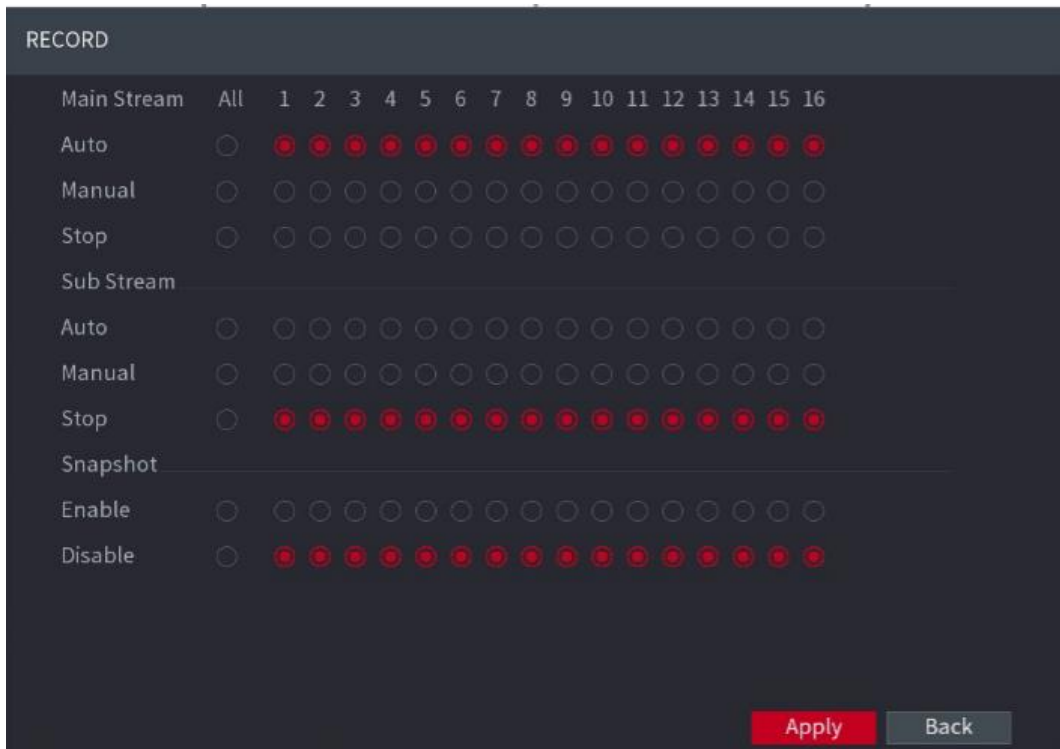

Figure 5-93
Step 1 Right-click on the live view screen, the shortcut menu is displayed. On the shortcut menu, select **Manual** → **Record Control**. The **RECORD** interface is displayed, see Figure 5-93.